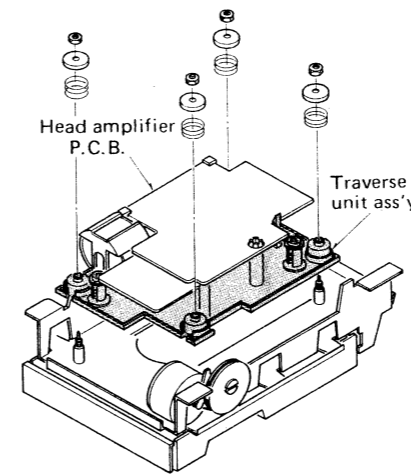

Fig. 32
4. Turn over the traverse unit, then remove the nut [Fig. 32] and traverse unit.